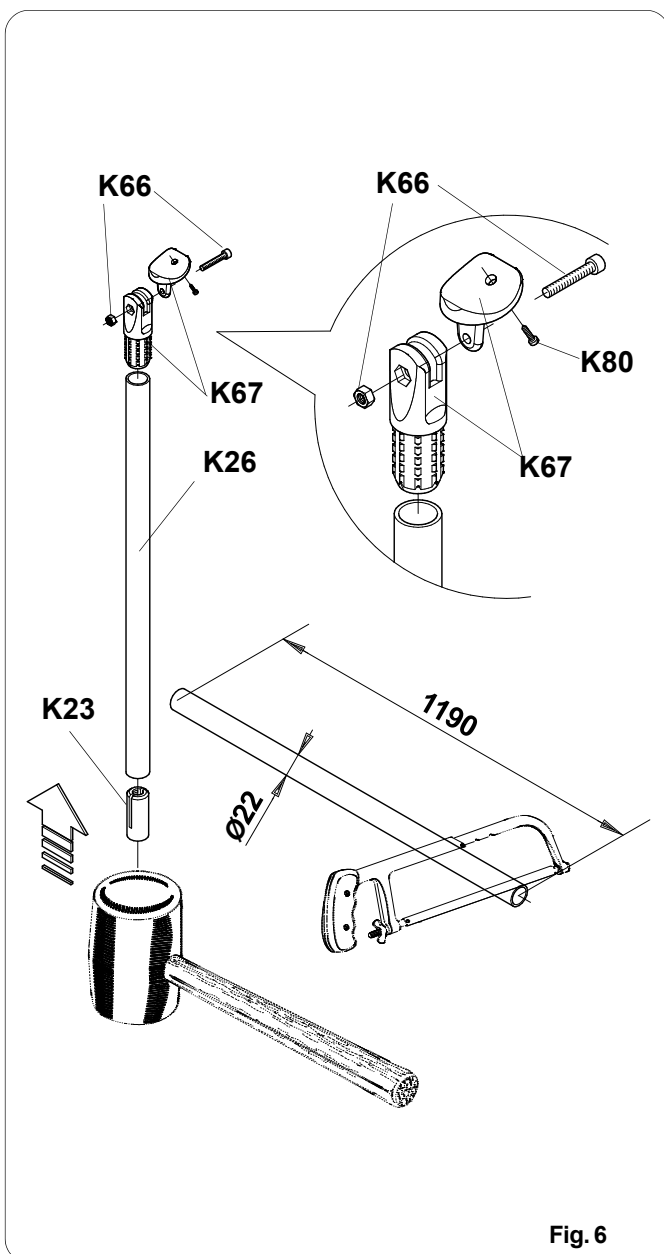

Fig. 6
- Mount columns as shown in fig. 6